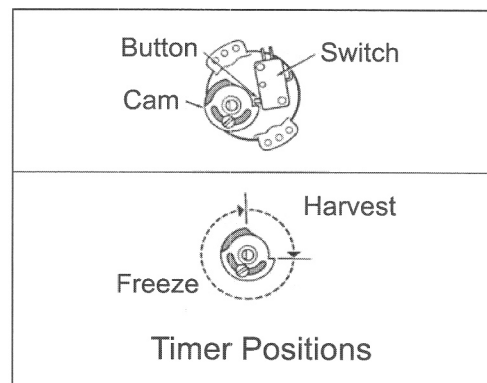

Figure 4-11. Rotate Timer Cam to Harvest Position
8. Locate the cycle timer and rotate the shaft clockwise until the cam is in the harvest cycle position (switch button out). (See Figure 4-11)